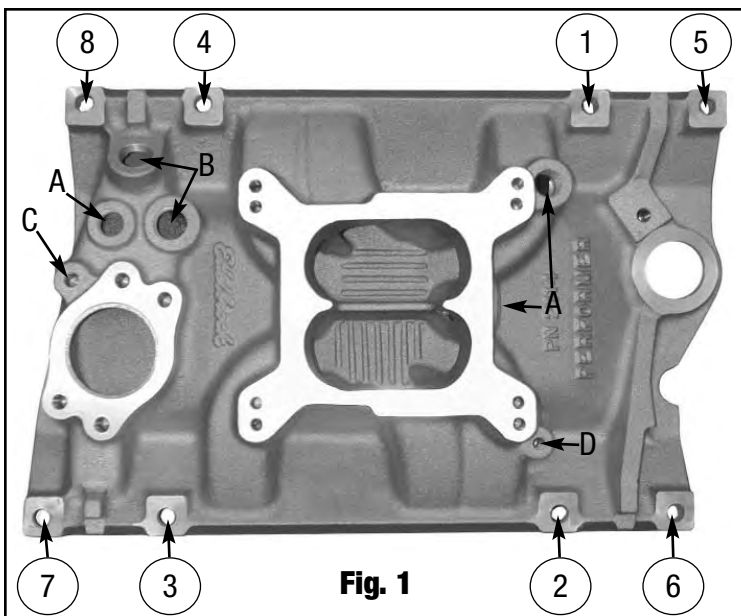

Fig. 1
- **MANIFOLD TORQUE** - Apply Loctite 222 to the intake bolt threads. Carefully tighten the intake manifold bolts evenly until the intake manifold has compressed the o-ring section of the gasket. Torque all of the manifold bolts in the sequence shown in Figure 1 to 11 ft/lbs or 15.0 Nm.